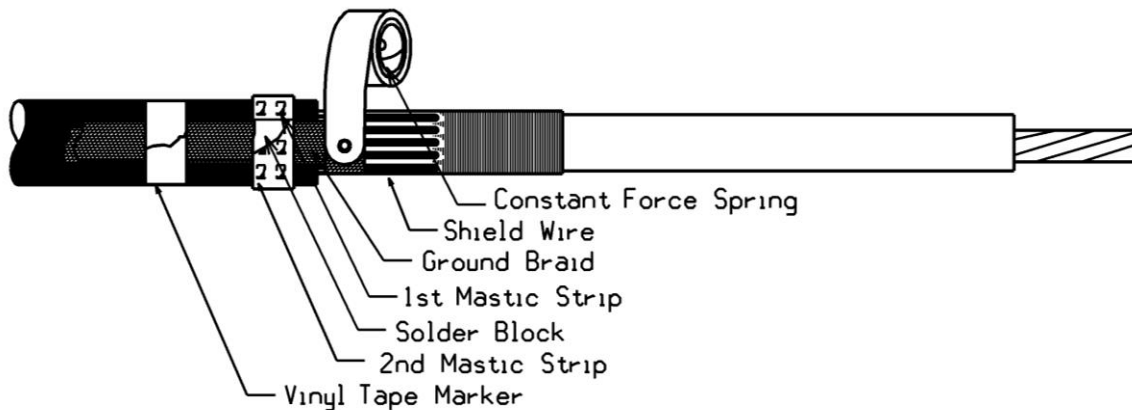

Figure 14
- Wrap the ground braid around the metallic shield, placing the solder block on the second tail on the mastic applied in Step 1. Secure with a constant force spring. Using the second mastic strip from the termination kit, remove the liners and wrap mastic over the solder blocks and the first mastic strip. If the solder blocks overlap each other, mastic must be applied between the solder blocks as well as over them. See Figure 14.